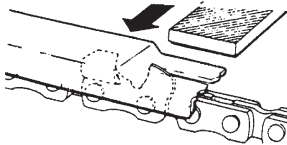

Fig. 47
- 3) Place depth gauge tool on cutter. If depth gauge projects, file it level with the top of the tool. Always file from the inside of the chain toward an outside cutter. (Fig. 47)